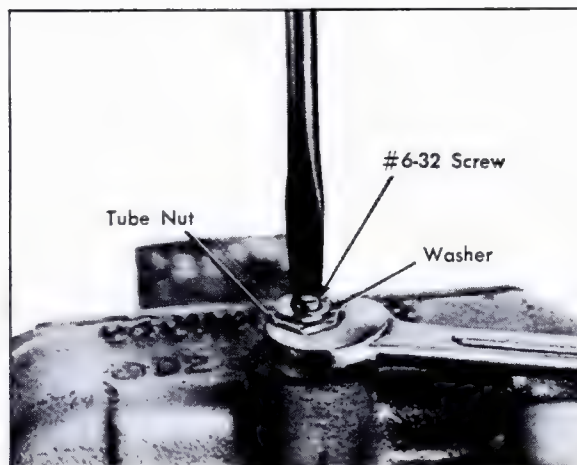

Fig. 5-29 Removing Tube Seat Inserts
14. Install a spare brake line tube nut in outlet hole, place a flat washer on a 1 inch #6-32 screw and thread screw into hole in tube seat insert, Fig. 5-29.
15. To pull insert, hold screw from turning and turn tube nut out of outlet hole, Fig. 5-29. Remove both inserts in this manner and discard.